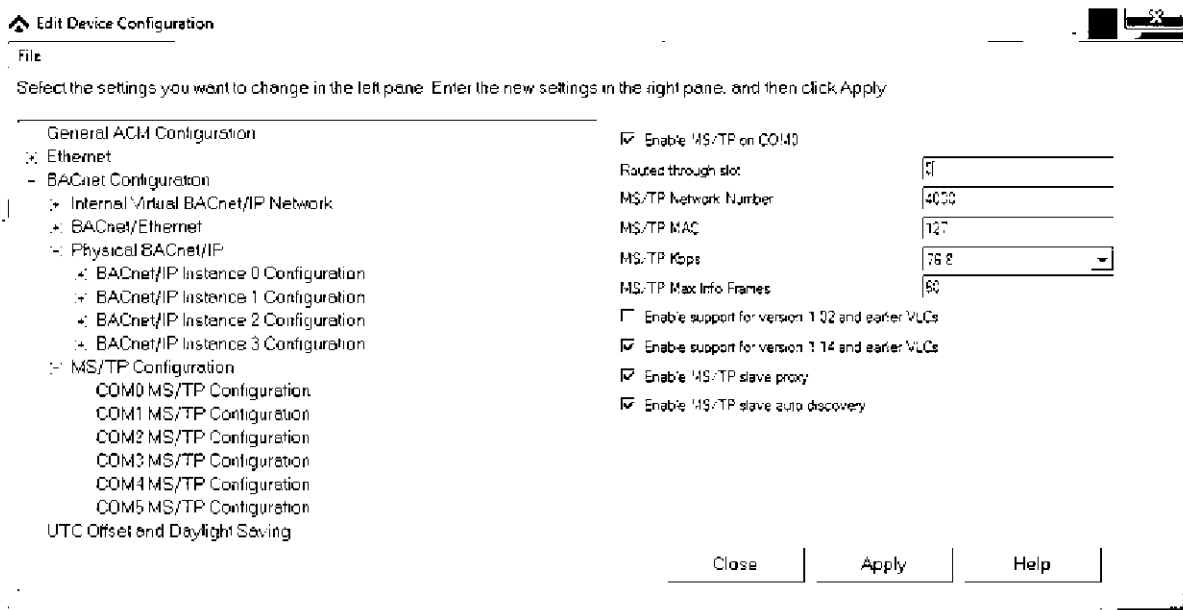

Figure 15 Sample ACM COM MS/TP Configuration parameters
**Note** Clear the bottom three check boxes in Fig. 15 on p. 28 unless you are certain these features are required.